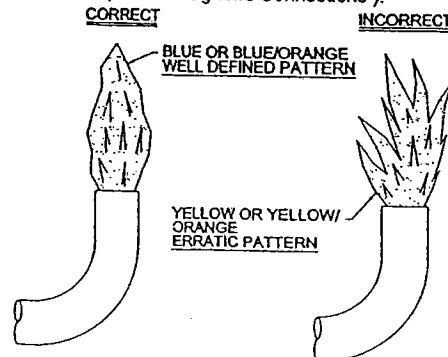

Figure 11
- A. Main Burner: Do not allow the burner to burn with a yellow flame, because sooting will occur. (See Safety Warnings). If the burner flame is yellow and has an erratic pattern, shut unit down and contact a qualified service agency. Do not continue operating unit with improper burner flame. (See Figure 11 for correct and incorrect burner flame appearance.)